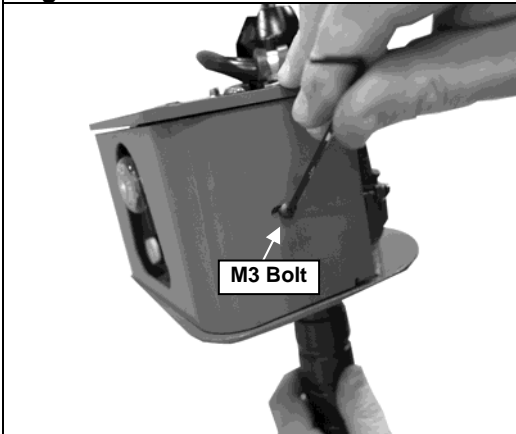

Figure 2-10
- 6) Remove (2) two M3 screw for the cable guard on the handle. (See Figure 2-10)